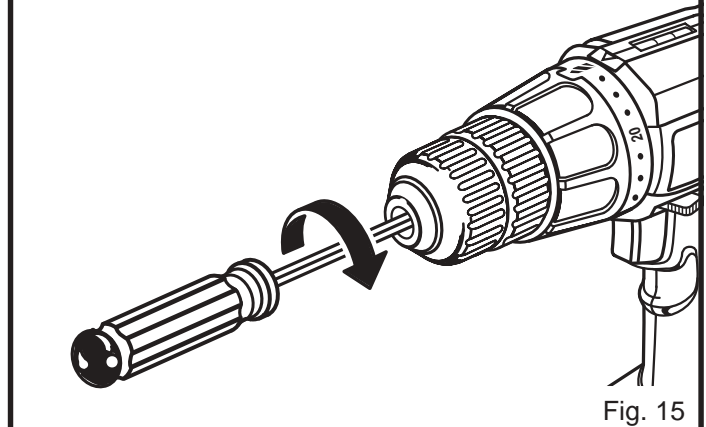

Fig. 15
- Open the chuck jaws and remove the hex key. Remove the chuck screw by turning it in a clockwise direction. *See Figure 15.*